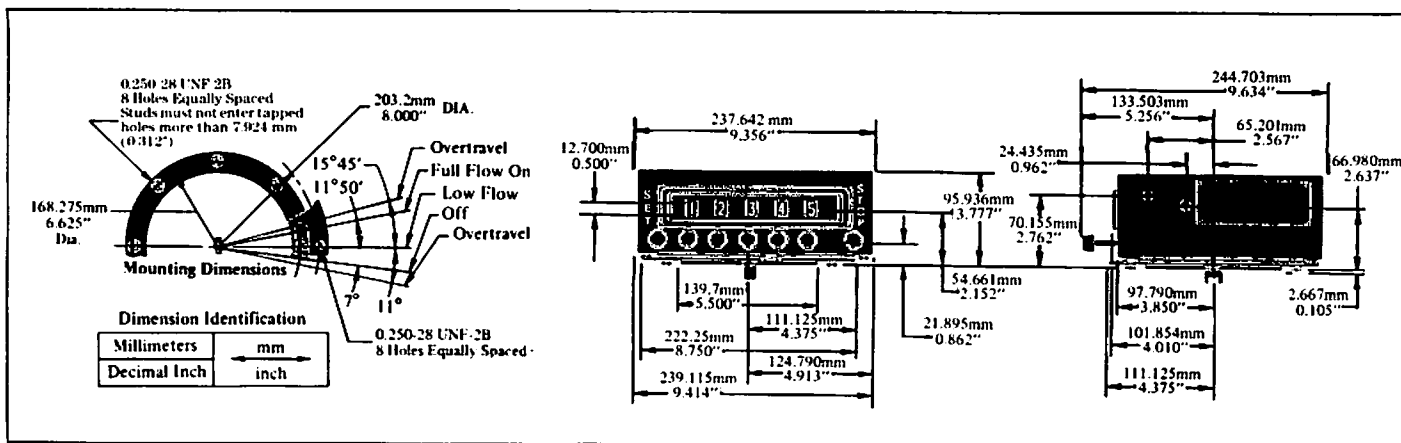

Figure 1. Exterior and Mounting Dimensions — Series 7889 Preset.
- Mounting.** See Figure 1. There are eight tapped mounting holes for use with ¼-28 screws. The Preset is designed to mount directly on a Liquid Controls, Smith or Tokheim Flow Meter. Adapters are available for mounting on Brodie, Neptune, Rockwell or Keene (Bowser) meters.
- Valve and Switch Connections.** The Preset can be connected to a two-stage valve by customer-supplied, direct linkage or by an electrical switch with linkage. Either linkage connects to a rotating knockoff plate on the bottom of the Preset case with a ¼-28 screw (Figure 1). The rated first-stage valve load is 60 pounds.
- Outline Dimensions.** See Figure 1.
- Output (Knockoff).** Two-stage knockoff. Unit counts down from preset number. First stage knockoff point is set at the factory to customer's specification at 90, 80, 70, 60, 50, 40, 30, 20, 10, 9, 8, 7, 6, 5, 4, or 3. An optional three-finger rake provides first stage knockoff at a number between 900 through 100 in increments of 100. The setting can be internally changed by the customer in the field. Second (final stage) knockoff occurs when all wheels reach zero. See Figure 1 for angular travel of knockoff plate.
5. Verify that after the valve closes, the knockoff plate has rotated the correct distance of  $15^\circ$ ,  $45^\circ$  plus  $7^\circ$  (Figure 1) and that there is some overtravel still left in the plate.